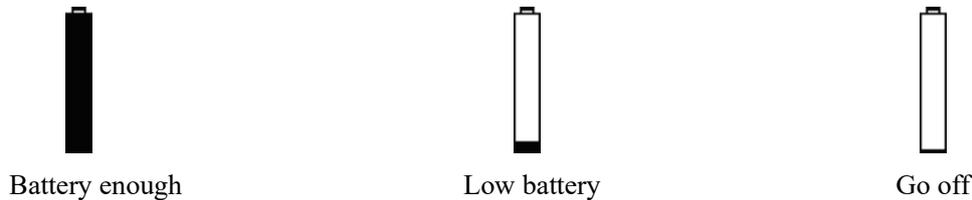

Figure 2.3 Battery Level Display
- f) Check the battery voltage. The battery charge detection icon as shown in Figure 2.3 shows that the battery power is insufficient;